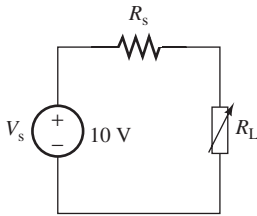

FIGURE P3.77 Circuit for Problem 3.77.
- 3.77 (H) For the circuit shown in Figure P3.77, draw a graph of the maximum output power of R_L when R_s changes from $1\ \Omega$ to $100\ \Omega$. R_L is adjustable.